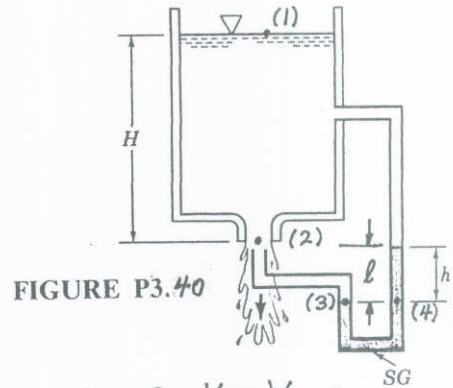

FIGURE P3.40
3.40 Water flows from the tank shown in Fig. P3.40. If viscous effects are negligible determine the value of  $h$  in terms of  $H$  and the specific gravity,  $SG$ , of the manometer fluid.